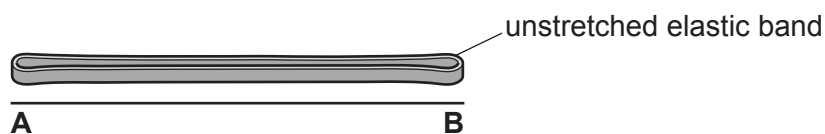

Fig. 4.1
Fig. 4.1 shows the elastic band before it is used by the student. It is drawn full-size. The elastic band has not yet been stretched with any forces.
- (a) Measure the unstretched length of the elastic band in Fig. 4.1 from point **A** to **B** to the nearest millimetre and record your result in Table 4.1.